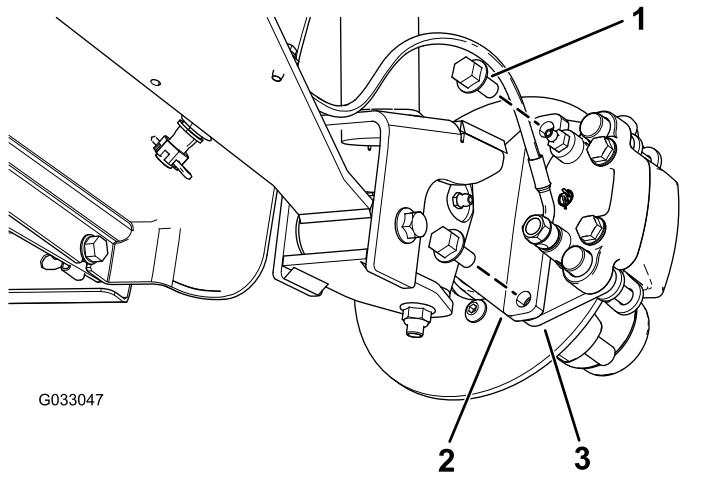

**Figure 32**
2. Remove the 4 lug nuts that secure the wheel to the hub (Figure 32).
4. Align the holes in the wheel to the studs of the hub and assemble the wheel to the hub with the valve stem outward (Figure 32).
5. Secure the wheel to the hub using the lug nuts (Figure 32).